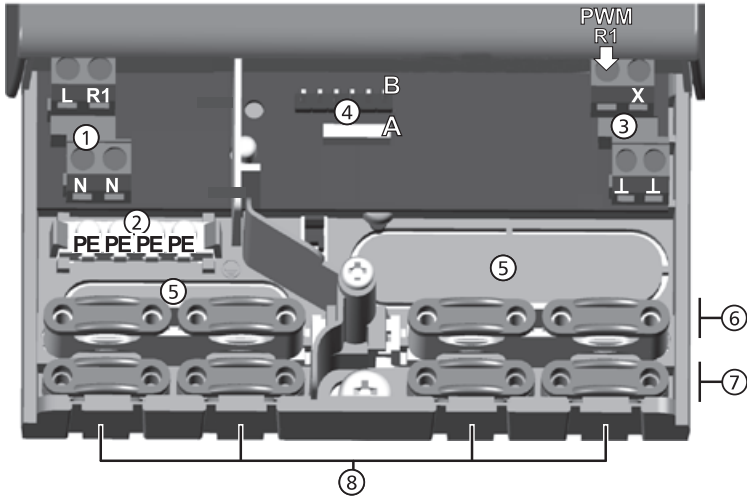

Fig. 3: Terminal clamps in the lower part of the controller (terminal cover removed)
1. Break out the cable openings ⑤ (Fig. 3) using a suitable tool.
1. *Cut the required* cable openings ⑧ (Fig. 3) at the left and right using a suitable knife and break them out.